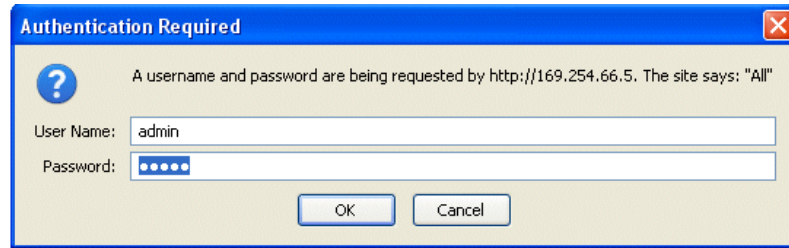

Figure 1. Login Screen
3. Enter the radio's IP address in a web browser window, just as you would enter a website address. When the login screen appears (Figure 1), enter the User Name and Password for the radio. The default entries for a new radio are both **admin**. Click **OK**.